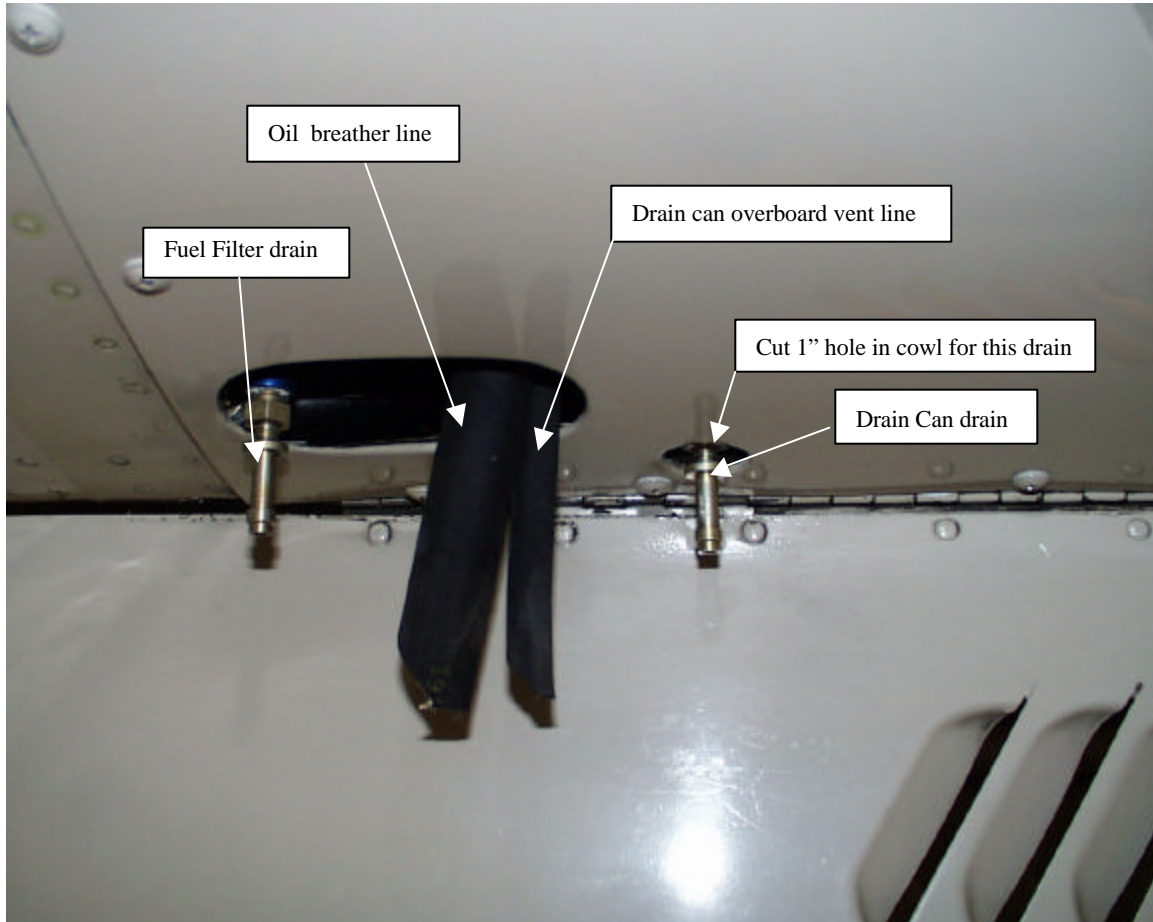

Figure 2-3. Cowling with Drain Can Installed
3. Find the location on the bottom cowling where the drain can drain will be located. Cut a 1 inch hole in this location for clearance around the drain. The drain can installation as viewed from outside the aircraft with the cowling installed is shown in Figure 2-3.